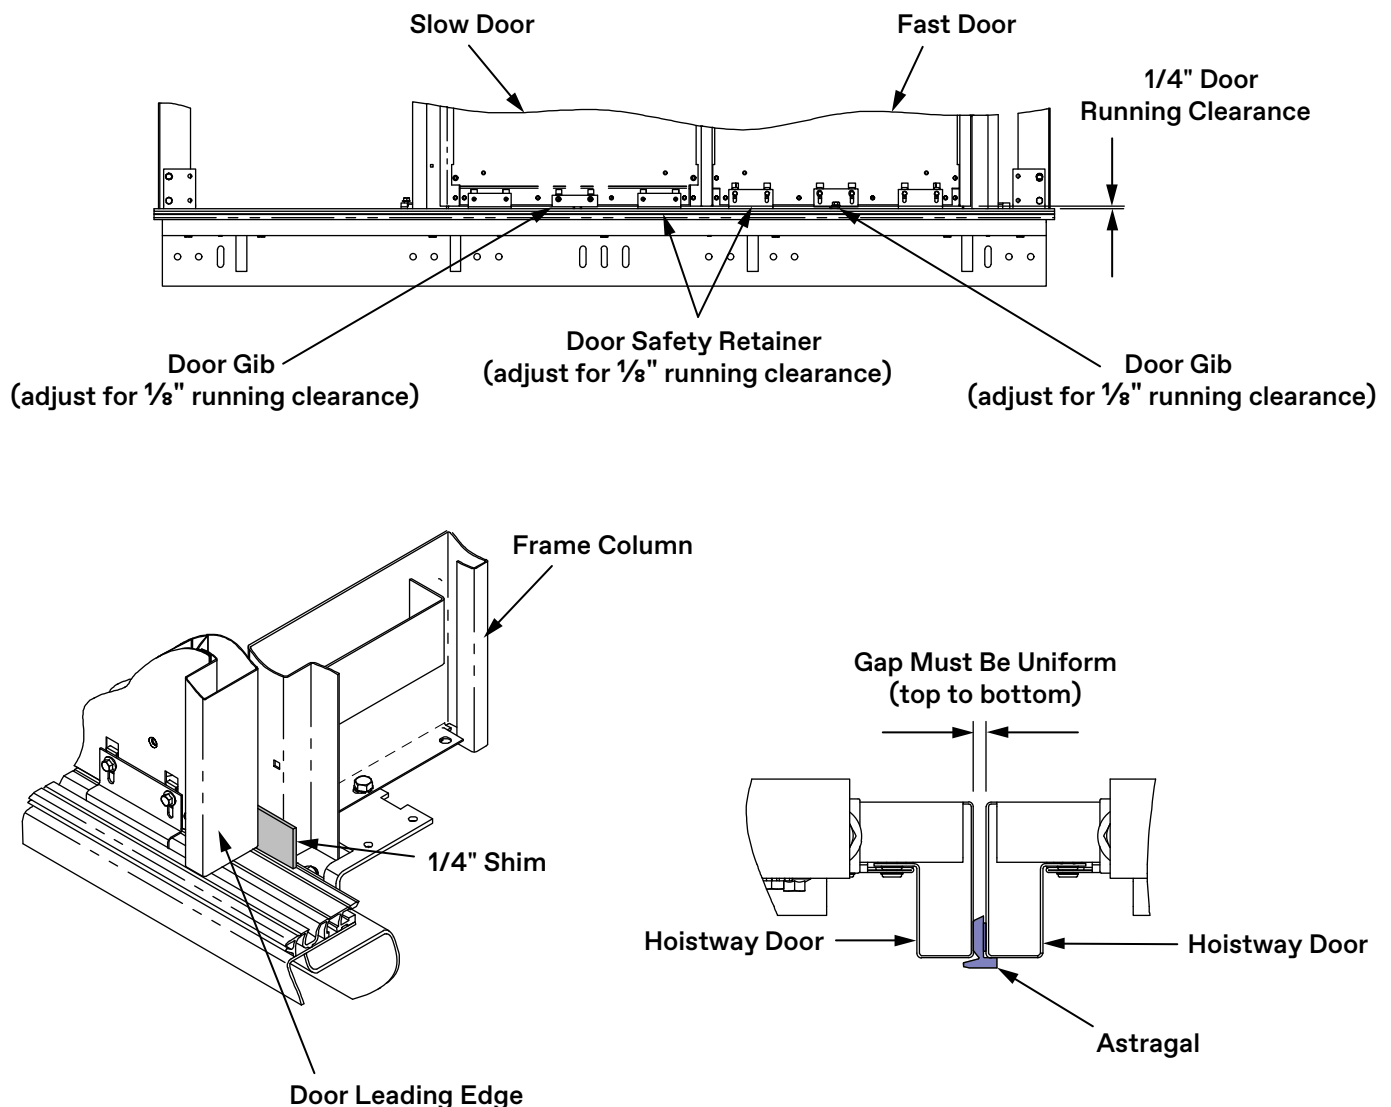

Figure 47 - Adjust Door Gibs
1. Adjust door gib brackets and door retainer brackets for a $\frac{1}{8}$ " running clearance between brackets and hoistway sill. Tighten bolts after adjustment. See Figure 47.